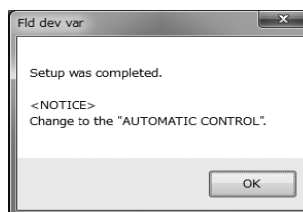

Fig.29
- ⑧ Click "OK" to change the settings to the inputted values, and then click the "OK" button in the displayed message box (Fig. 29) to complete the setting process.